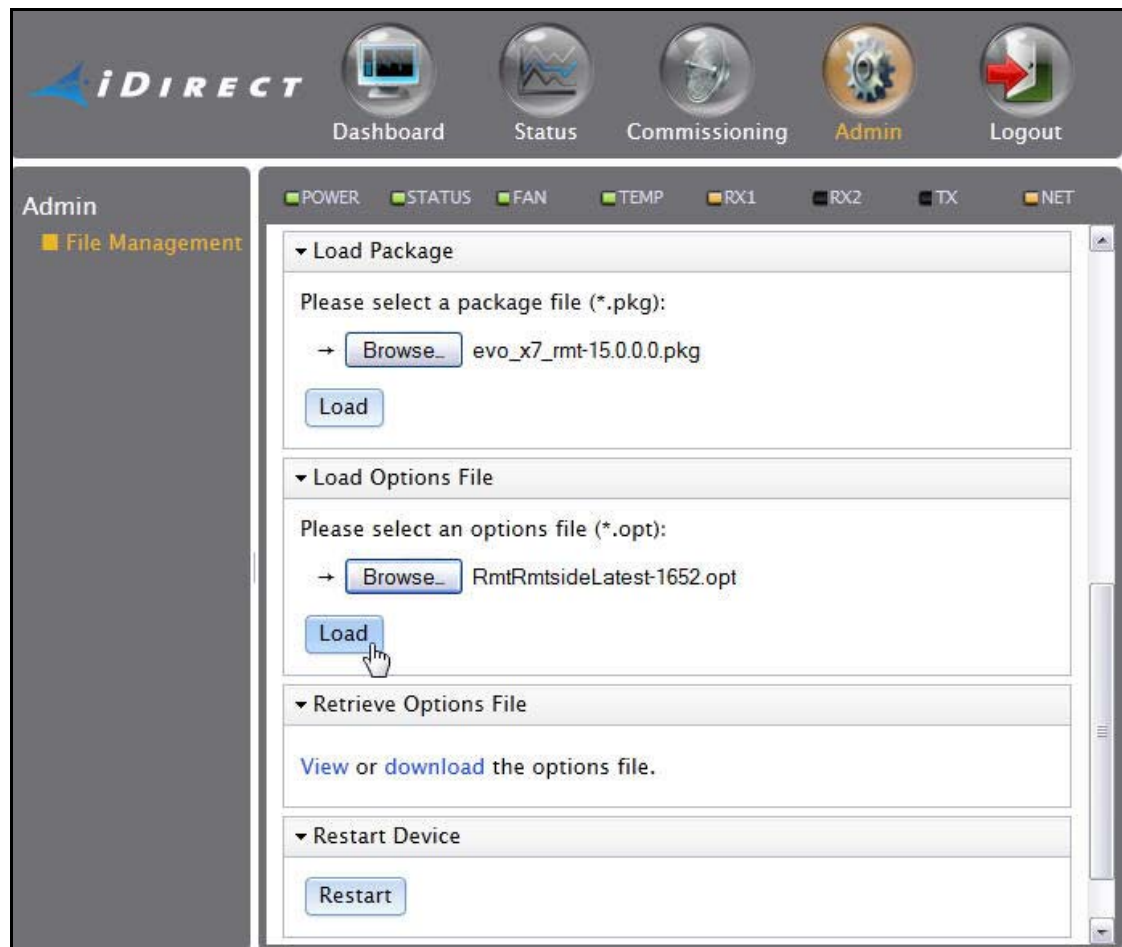

Figure 33. File Management: Load Options File
4. Verify that the correct filename is displayed in the Load Package window (Figure 33).